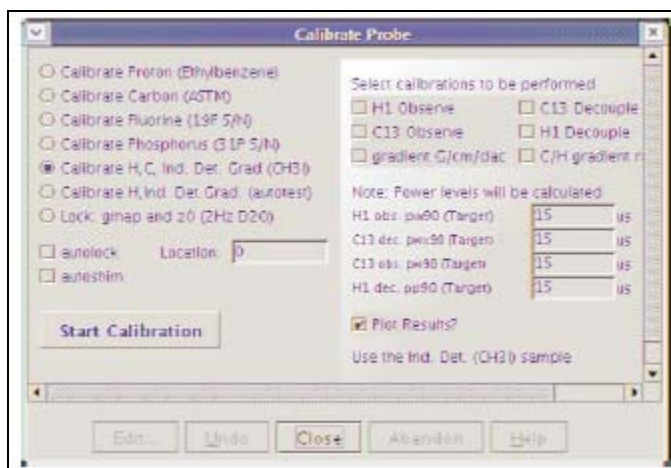

Figure 14 Prompts for Calibrate H, C, Ind. Det. Grad (CH3I)
2. Follow the prompts, enter any required values, select options, and proceed according to the instructions presented in the Calibrate probe window; see Figure 14 for an example of the prompts presented: